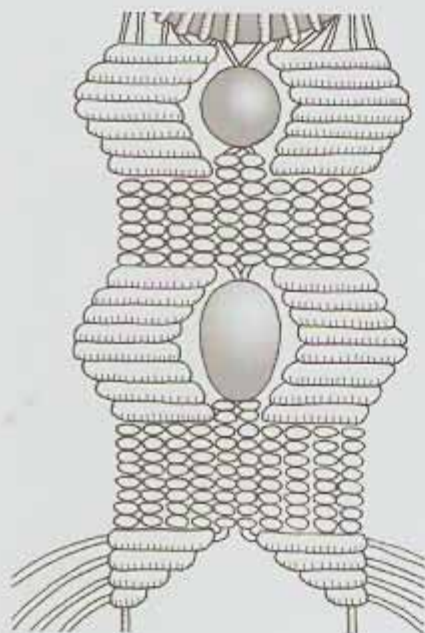

Fig. 4
13. Rows 12 -14 - Add 3 more rows of **DHHs** (repeating Step 12). Check to see that the bottom of Row 14 is approx. to the midpoint of the accent bead. If your bead is bigger, add another row. Ideally, the space between rows 14 & 15 should be at the "equator" of the bead (see Figure 4).
19. Take Cd #5 and bring it out to the left under Row 22. Make a row of 4 **DHHs** using Cds # 4, 3, 2, & 1 (see Figure 4).
- All the cords should be coming out straight to the left side (Cds#1 - 4) except for Cd #5, which exits the last **DHH** vertically (see Figure 4).